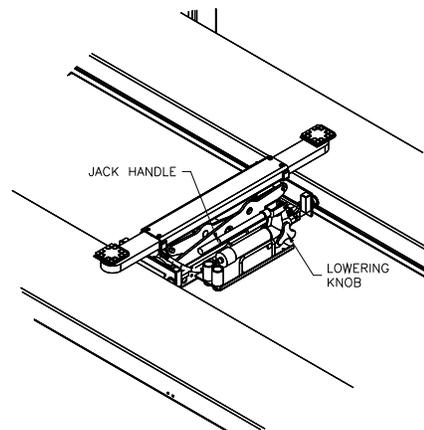

Fig 30 – Rolling Jack
- 2) Make sure the lowering valve is closed all the way by turning the knob clockwise, **Fig 30**.